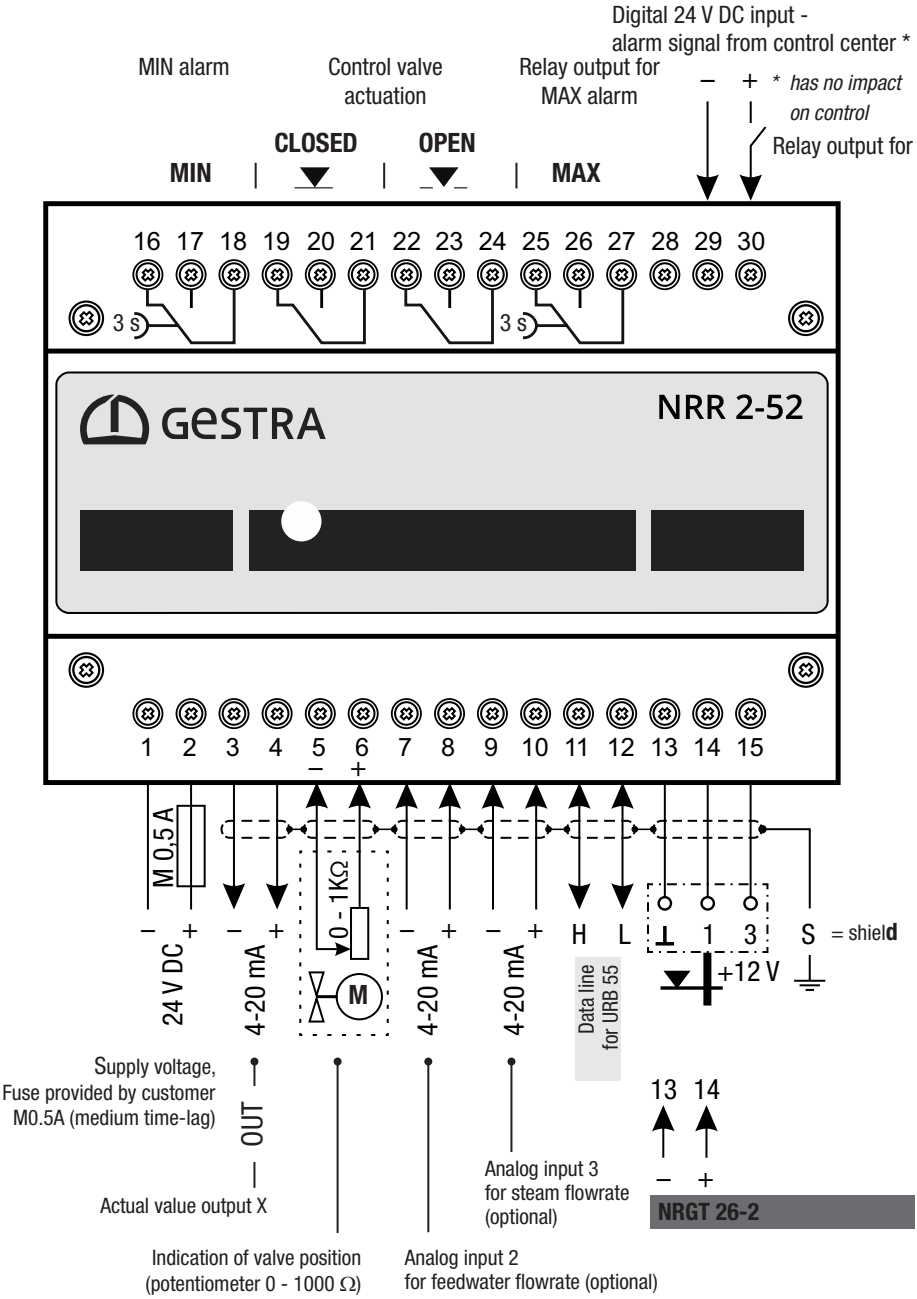
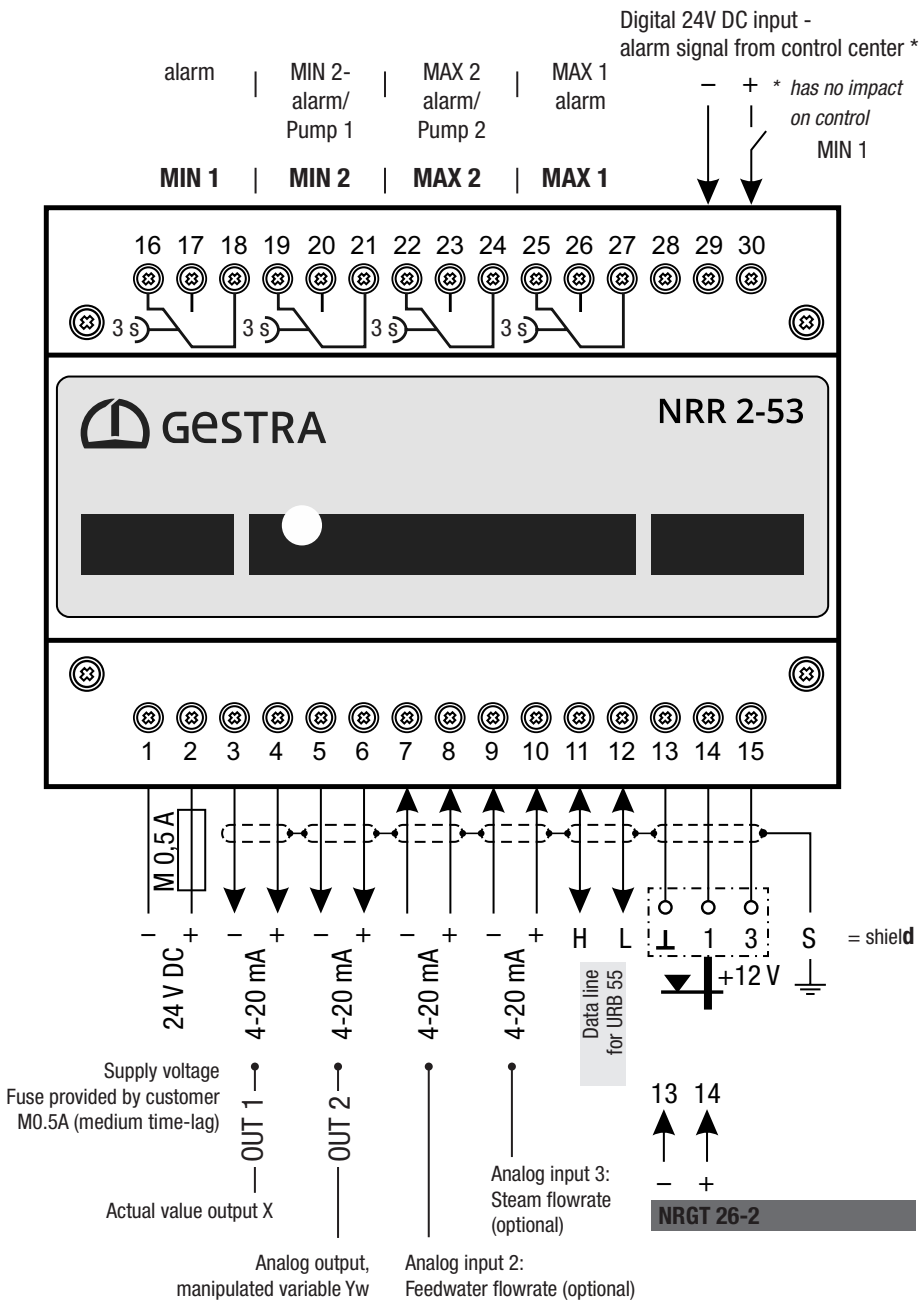

Fig. 18
Fig. 19
- Connect the level controller and all associated components as shown in the wiring diagrams in **Fig. 18 / NRG T 26-2** of this Manual.
- Connect the outputs as shown in the wiring diagrams in **Fig. 18 / Fig. 19**.
A pre-wired control cable with socket is supplied for connecting the equipment. For terminal assignment, see wiring diagram **Fig. 18, Fig. 19**.
- Wire the terminal strip as shown in the wiring diagram, **Fig. 18, Fig. 19**.